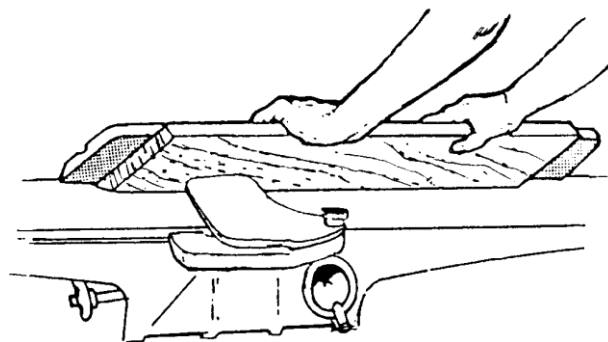

FIG. 27
**CAUTION:** Although fence may be tilted in or out for bevel cut, We recommends for safety reasons the fence be tilted in, if possible, making a cradled cut (Fig. 27).